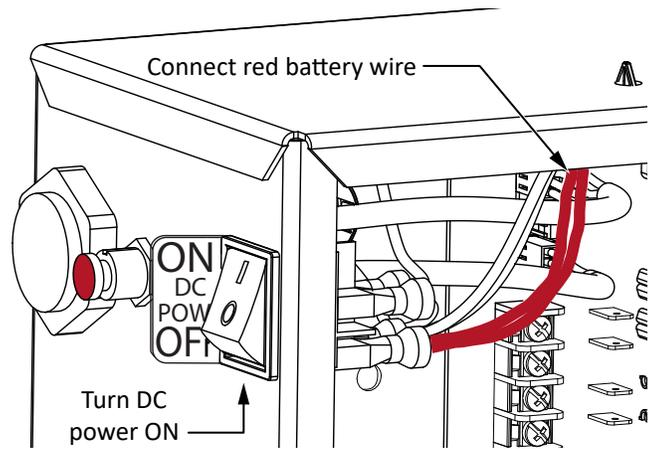

Figure 16. Connect Battery and Power On
1. Connect the red battery wire to its spade terminal. Figure 16.